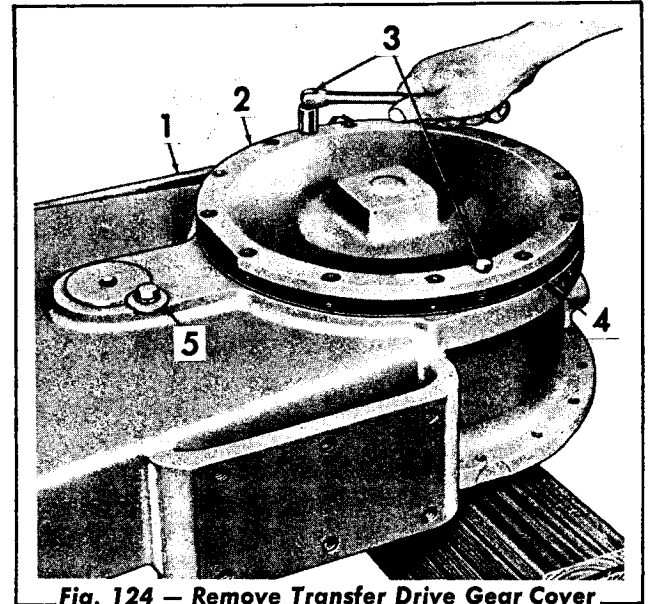

Fig. 124 — Remove Transfer Drive Gear Cover
7. Position the transfer gear housing assembly (Fig. 124) on its rear surface and level it with blocks. Remove the capscrews and lockwashers from the transfer gear cover. Use jackscrews to loosen the cover. Remove the cover and the gasket. Remove the cap-screw, the lockwasher, and the transfer idler gear spindle retainer washer.